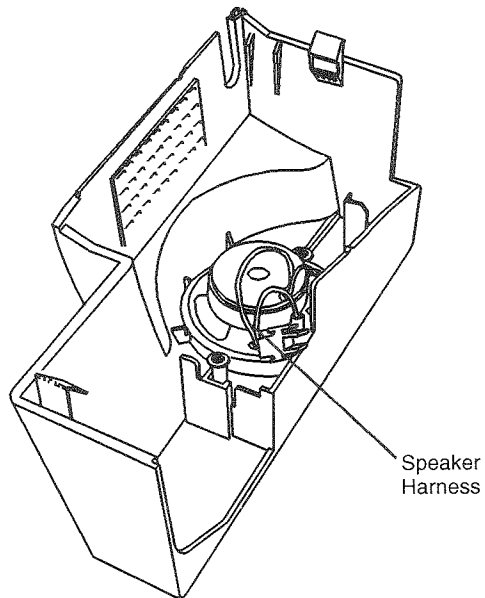

Figure 1 Removing the Speaker Harness
2. (Figure 1) Remove the Speaker Harness (PL 9.3).